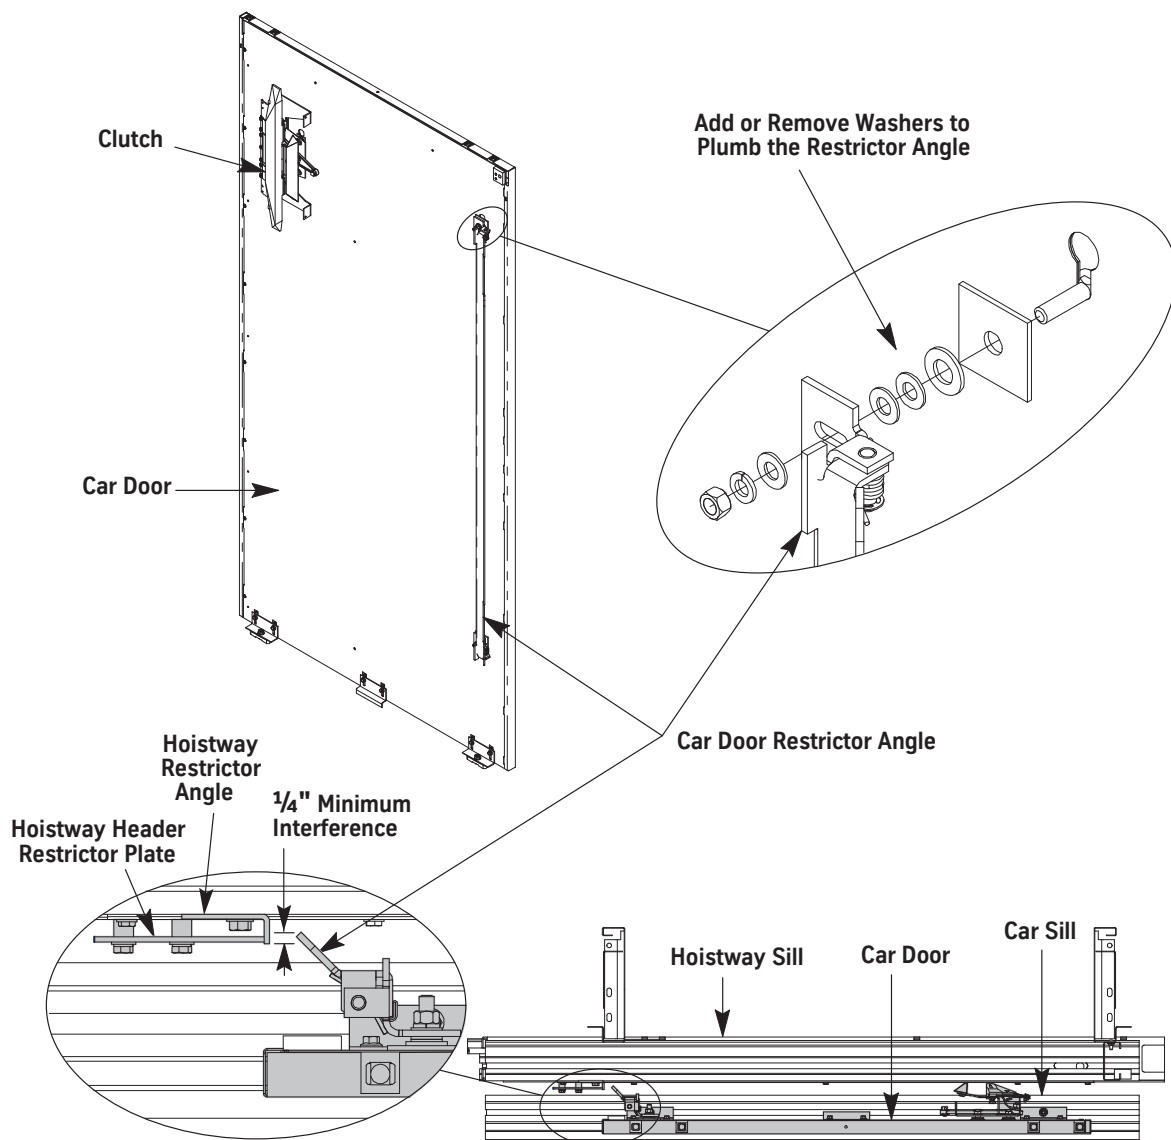

Figure 75 - Install the Car Door Restrictor Angle
2. Use washers to adjust the car door restrictor so that it is plumb and a 1/4" minimum interference when the car door restrictor engages the hoistway restrictor angle. See Figure 75.